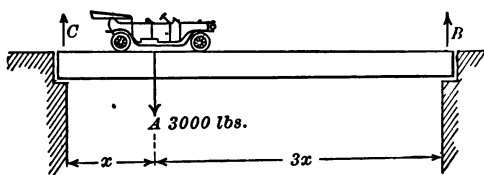

FIG. 28. — Bridge with automobile on it.
30. Parallel forces. Suppose we have a 3000-pound automobile standing on a bridge in a position one fourth of the length of the bridge from one end (Fig. 28), and we wish to know how much of the weight is borne by the supports at each end of the bridge.
Let us apply these principles of parallel forces to the problem of the automobile standing on the bridge. This can be represented by figure 28, where *A* is the weight of the